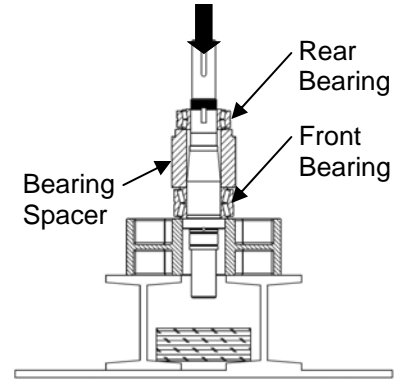

Figure 50: Removing Bearings and Sleeve From Shaft
6) Using a press and a V-block, remove the front and rear bearings along with the bearing spacer. To prevent damage to the shafts make sure that both ends are protected (Figure 50). Reference Table 7 for the required force (in tons) needed to press the bearings off the shafts.